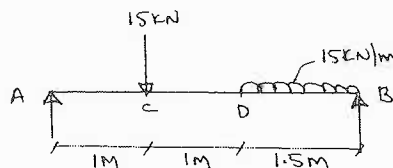

Fig. Q5 (b)
b. A simply supported beam is subject to a point load of 15 kN together with udl of 15 kN/m applied as shown in Fig. Q5 (b). Draw SFD and BMD. Find also point of zero shear and its corresponding BM. (10 Marks)